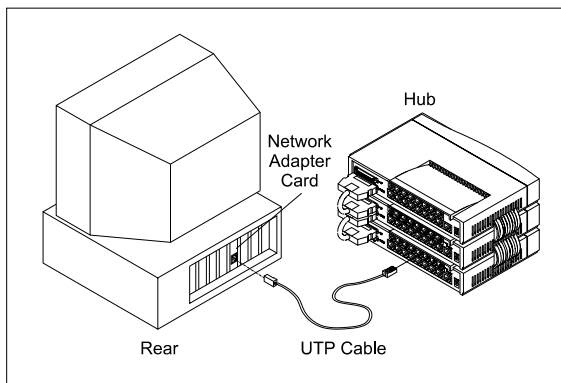

Figure 2-10 Connect to computers
2.3.2 See if the computer is working and find the RJ-45 connector of the adapter card in computers. You can connect UTP (Unshielded Twisted Pair) cables from normal ports of the hub to computers directly, as shown in Figure 2-10.